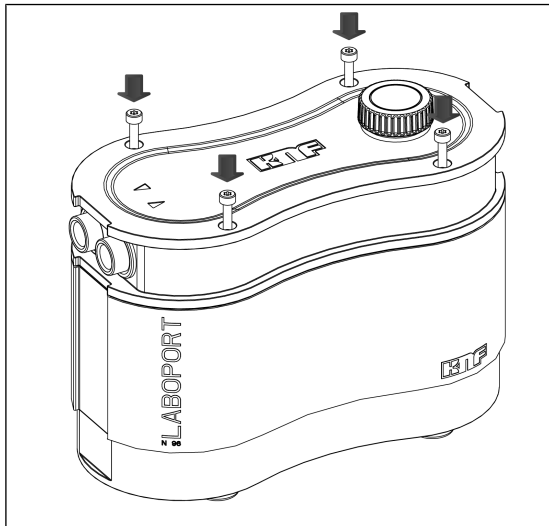

Fig.14: Screwing in housing screws
3. Screw in the four housing screws (1) crosswise (tightening torque: 190 – 200 Ncm) (see Fig. 14).